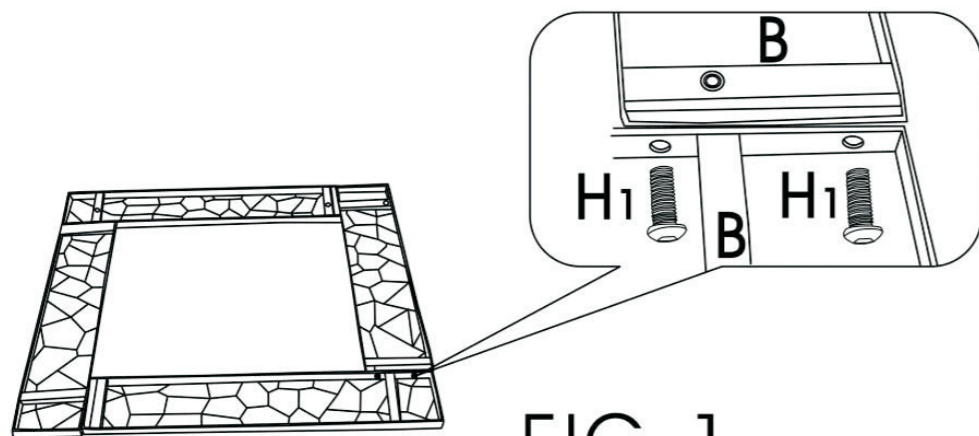

FIG 1
Step 1 Place Mantle parts (B) on a soft, even clean surface with the groove sides upwards to form a square. Connect each by using Bolts (H1). (View Fig 1)